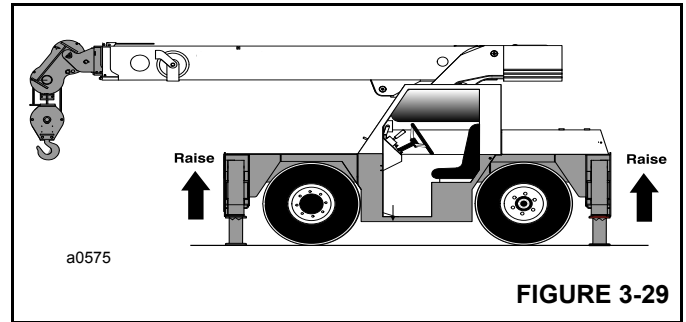

FIGURE 3-29
3. Push the bottom of the Extend/Retract Switch (2).
4. Press the accelerator pedal to increase the engine speed, which will accelerate the upward movement of the jacks (Figure 3-29). Release the accelerator pedal and the switch when the jacks are fully retracted.